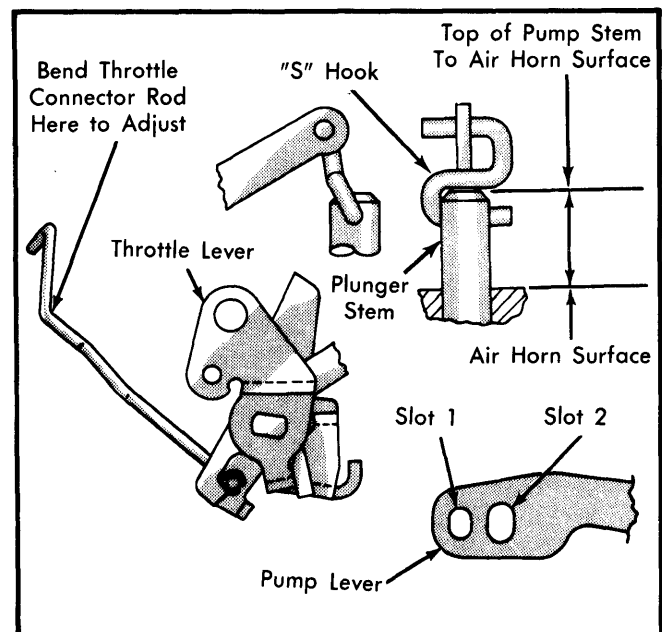

Fig. 12 Adjusting Accelerator Pump Stroke (First and Second Stage)
3) Adjust plunger height by bending throttle connector rod as shown in Fig. 12.